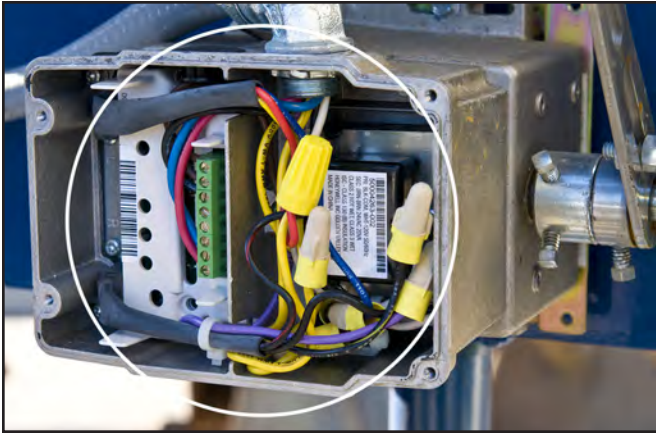

Figure 4. Terminal connections in mod motor.
- Terminals in mod motor. (**Fig. 4**)
- Modulation controller (**Fig. 4**) fails to modulate the mod motor.
All wire connections that pertain to the mod motor have either screw terminals or cage-clamp spring terminals. (**Fig. 4, 5, 6 and 7**). On connections with screw terminals use a screwdriver to slightly loosen the screws and retighten them. On connections with cage clamps, push on the wire, wiggle it and then pull on it to make sure it is held tightly.